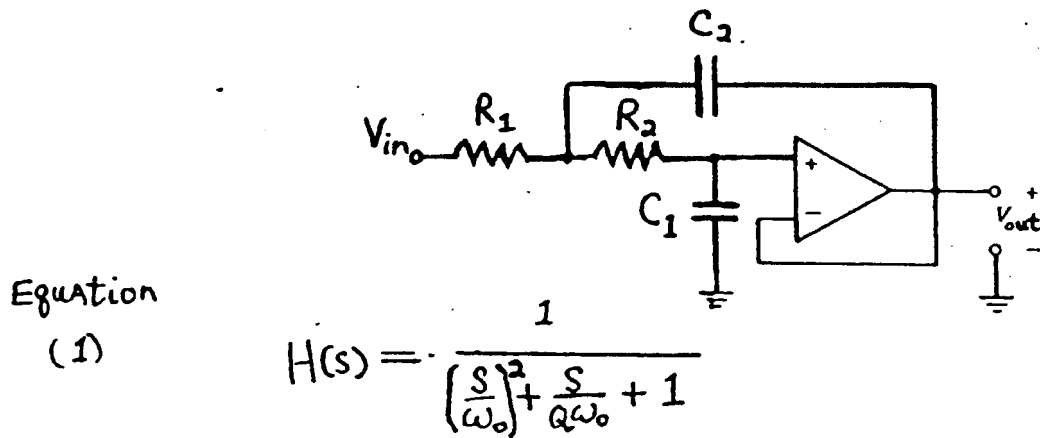

Figure 8. An op amp low pass filter
The op amp is widely used as a filter building block. A second order low pass filter is shown below in Figure 8. Calculate and choose the resistor and capacitor values using standard values to give  $f_{-3\text{ dB}} \approx 1\text{ kHz}$  and  $Q \approx 0.707$ . (Find  $v_{\text{out}}(s)/v_{\text{in}}(s)$  in terms of  $R$ 's and  $C$ 's. Arrange this transfer function into the form of equation (1) in Figure 8. For Butterworth type low pass filters,  $W_o = 2\pi \cdot f_{-3\text{ dB}}$ ). Build the filter and measure the A.C. gain for frequencies from  $100\text{ Hz}$  to  $500\text{ kHz}$ . Plot the gain (in dB) versus log frequency. How well does the cutoff frequency agree with your design?